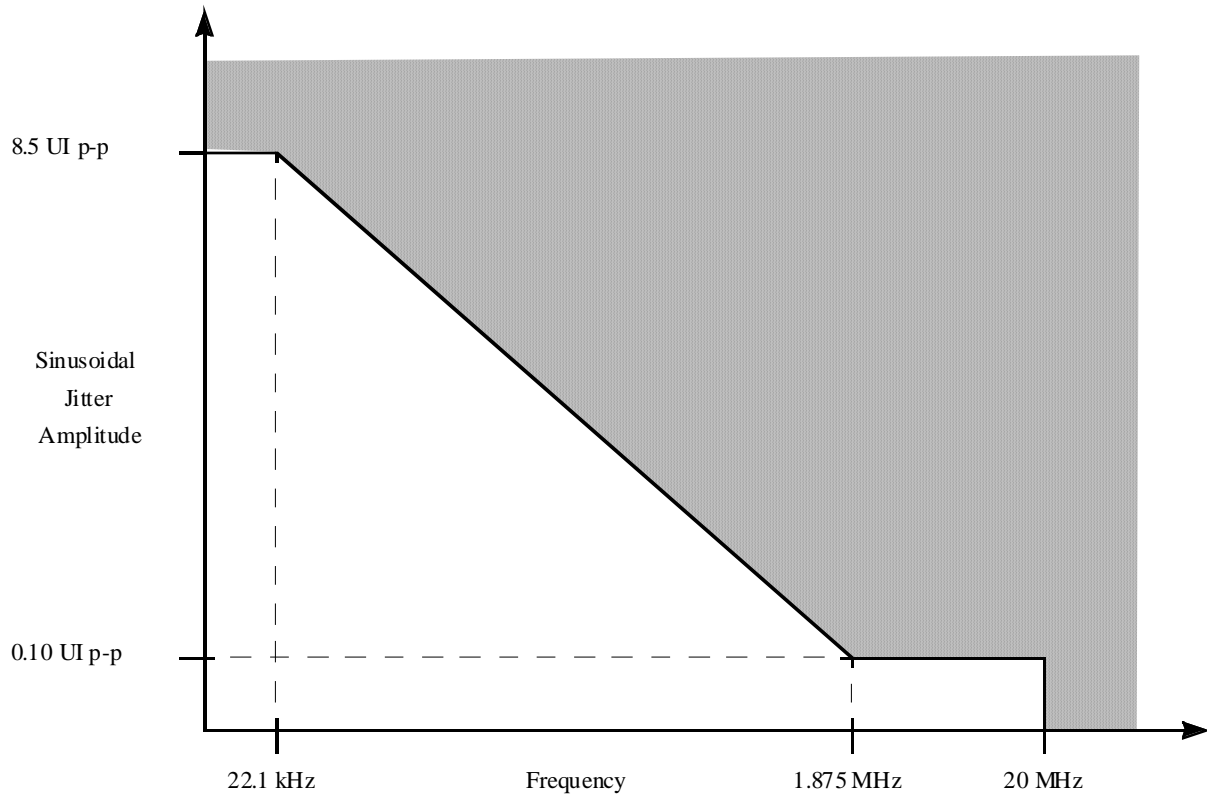

Figure 25. Single Frequency Sinusoidal Jitter Limits
2. See Figure 25 for single frequency sinusoidal jitter limits.
The sinusoidal jitter in the total jitter tolerance may have any amplitude and frequency in the unshaded region of Figure 25.